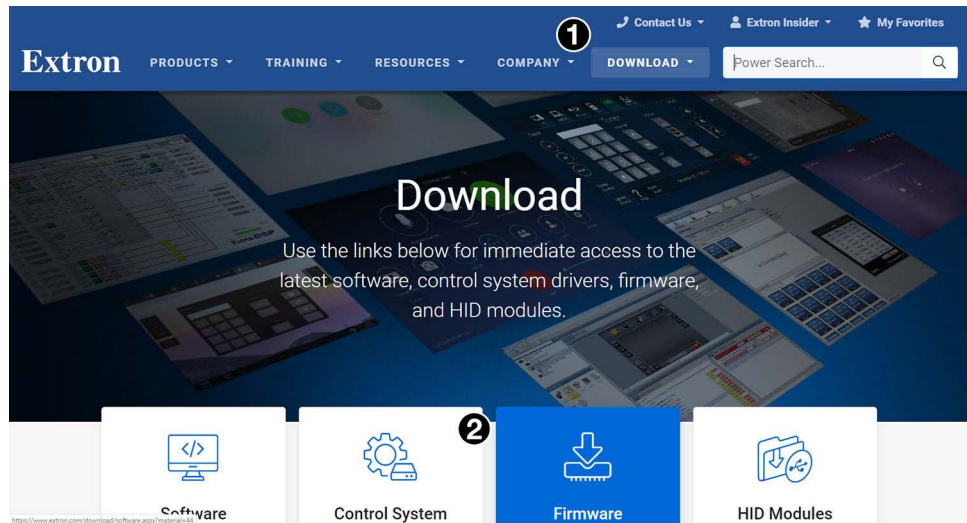

Figure 16. Firmware Download Center
2. On the Extron website (www.extron.com), click **Download** in the menu bar along the top of the page (see figure 16, **1**).